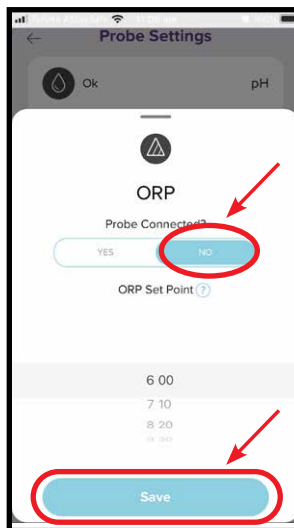

Figure 8.54
- From the ORP adjustment menu, under “Probe connected”, press no, then press “save” (refer figure 8.54)